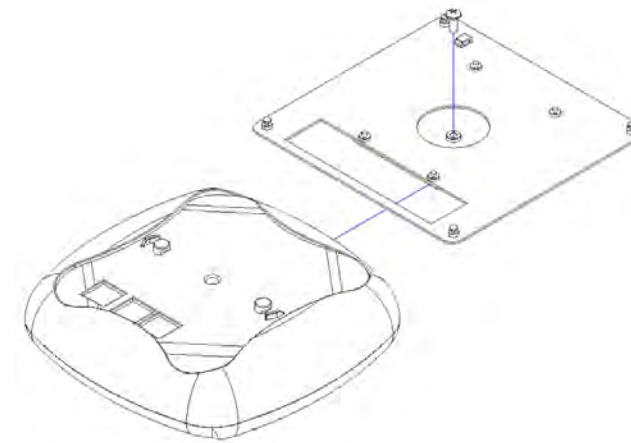

Figure 2 – AP Receiver Plate
Step 5 – Slide the receiver plate onto the AP, then fasten the #8-32 screw to the plate to hold the AP (Figure 2)